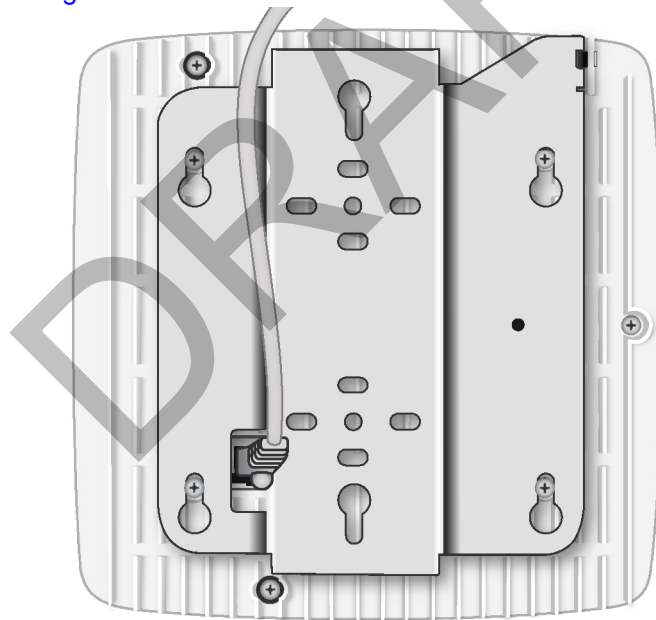

Figure 14 Route and Terminate the Cable
Step 2 Insert the RJ-45 connector through the rectangular bracket opening into the Ethernet port as shown in Figure 14: